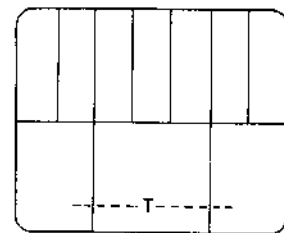

Fig. 5-7 On the TV screen
- 3) Depress the TRACKING button  or  on the Front panel until "T" mark can be seen in the center position as shown in Fig. 5-7.